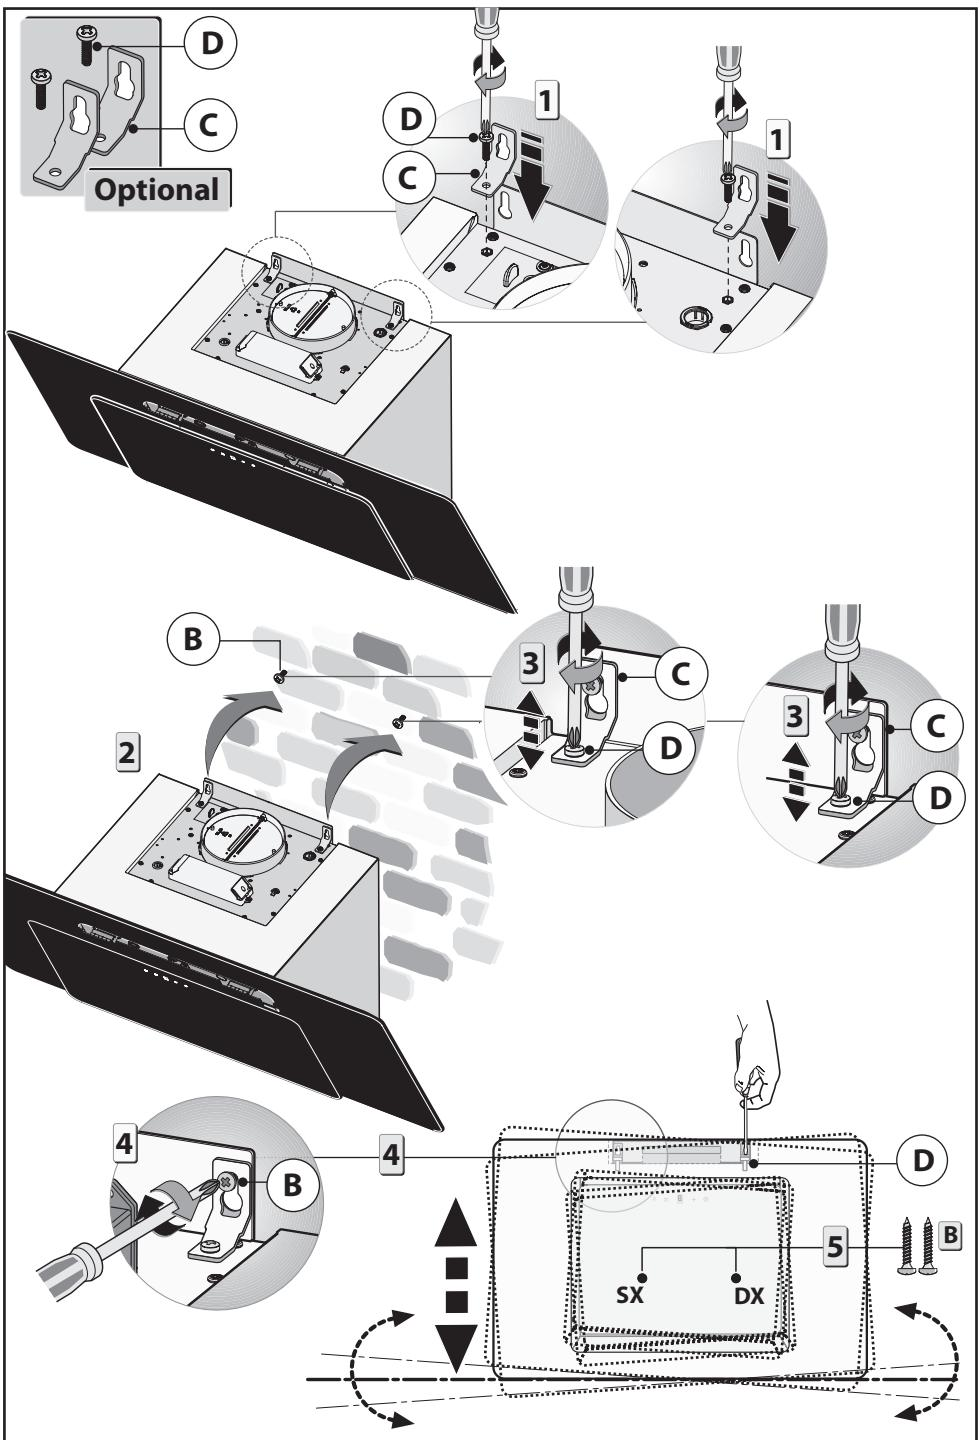

Fig.4
Fixing to the wall OPTIONAL ACCESSORIES (Fig.4):
- Take the two levelling brackets **C** and fix them to the hood support with the screws **D** as indicated in figure 4 - step 1. Do not tighten the 2 levelling screws **D**.
- Take the appliance and hang it on the two screws **B** figure 4 - step 2.
- Align the appliance horizontally by adjusting the two levelling screws **D** figure 4 - step 3.
- When you have finished the adjustment, tighten the 2 screws **B** figure 4 - step 4 and mount the hood on the wall permanently using the two safety screws **B** figure 4 - step 5.